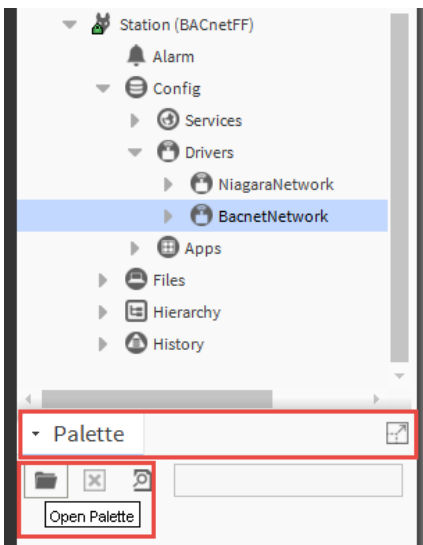

Figure 23: Opening Palette
- This will add a 'Palette' tab in the left pane. (Refer to Figure 23). Click 'Open Palette' option.